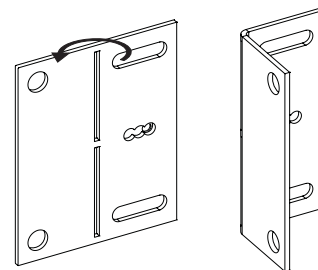

Figure 34
7. Bend the nailing flanges 90 degrees as shown in **Figure 34**.